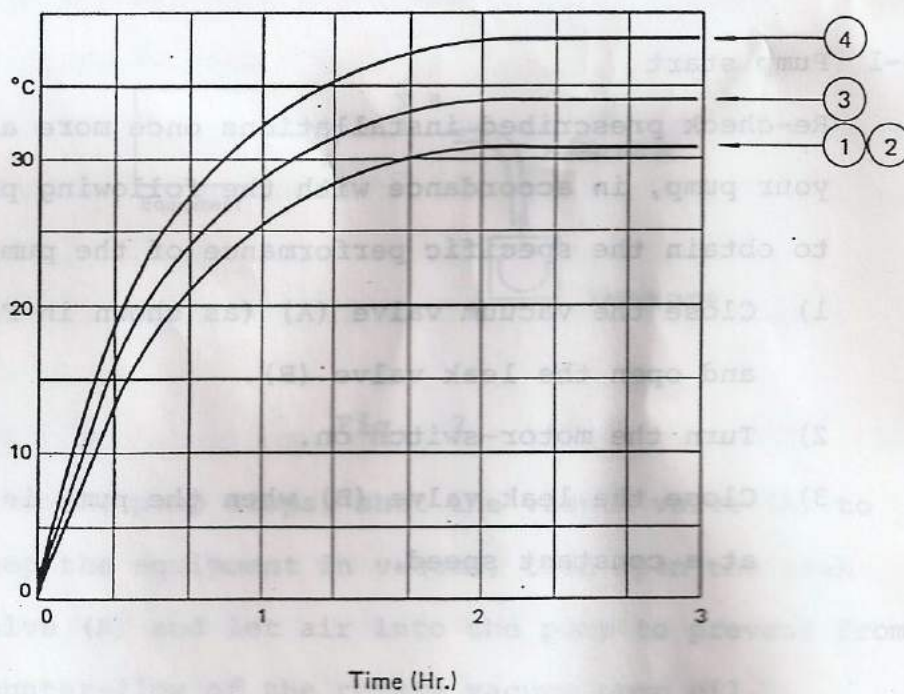

Fig. 3
b) Temperature rise of pump running at 1450 r.p.m. (50Hz) is shown in Fig. 3.